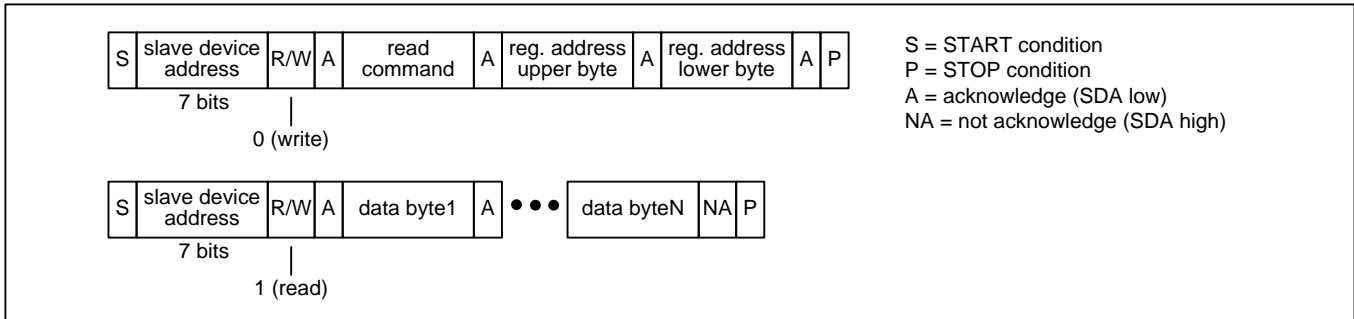
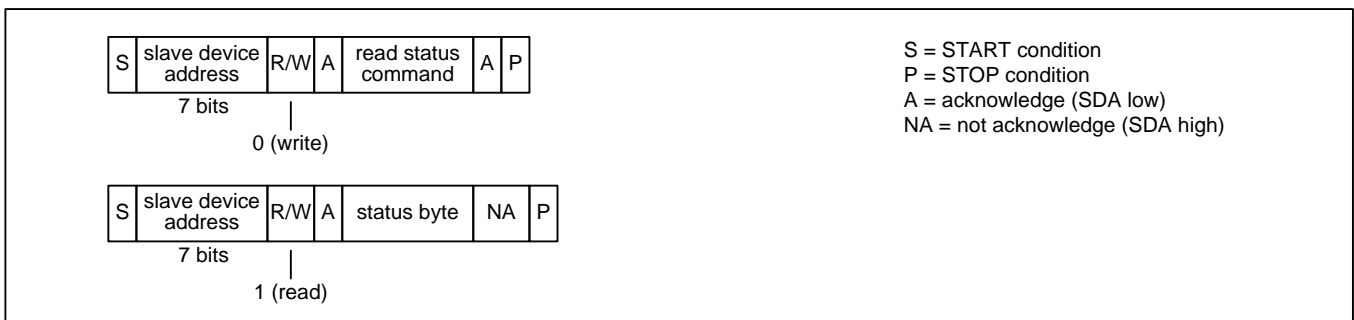

Figure 14 – I2C Read Transaction Functional Timing
Figure 17 – I2C EEPROM Read Status Transaction Functional Timing
**Read Transactions.** The device registers are accessible when  $EESEL=0$ . The internal EEPROM memory is accessible when  $EESEL=1$ . The bus master first does an I2C write to the device. In this transaction three bytes are written: the SPI Read command (see Table 4), the upper byte of the register address, and the lower byte of the register address. The bus master then does an I2C read. During each acknowledge (A) bit the device fetches data from the read address and then increments the read address. The device then transmits the data to the bus master during the next 8 SCL cycles. The bus master terminates the read with a not-acknowledge (NA) followed by a STOP condition (P). See Figure 14. Note: If the I2C write is separated in time from the I2C read by other I2C transactions then the device only outputs the data value from the first address and repeats that same data value after each acknowledge (A) generated by the bus master.
**EEPROM Read Status.** The bus master first does an I2C write to transmit the SPI Read Status command (see Table 4) to the device. The bus master then does an I2C read to get the status byte. In this byte, the least significant bit is set to 1 if the transfer is still in progress and 0 if the transfer has completed. See Figure 17.
Note: In Figure 14 through Figure 17, a STOP condition (P) immediately followed by a START condition (S) can be replaced by a repeated START condition (Sr) as described in the I2C specification.